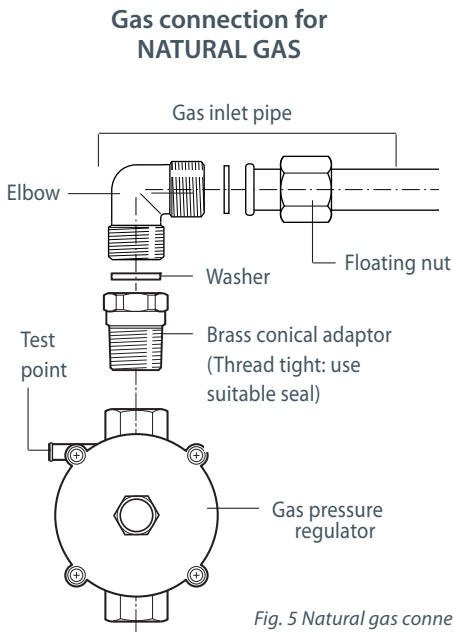

Fig. 5 Natural gas connection
- Before connecting the appliance to the gas main, mount the brass conical adaptor onto the gas inlet pipe, upon which the washer has been placed (Figs. 5 and 6). Conical adaptor and washer are supplied with the appliance (packed with conversion kit for use with Natural gas or LPG).
- For Natural Gas, connect the gas supply to the gas pressure regulator which is supplied with the appliance (Fig. 5). Adjust the regulator to obtain a test point pressure of 1 kPa with the two semi-rapid burners operating at the maximum.